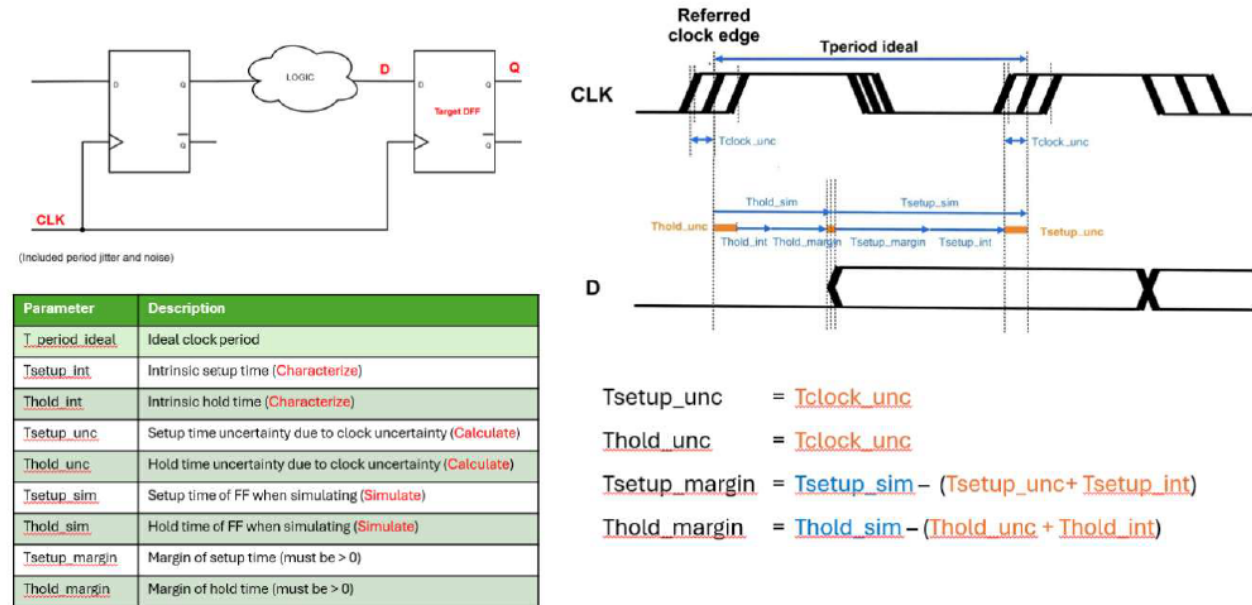
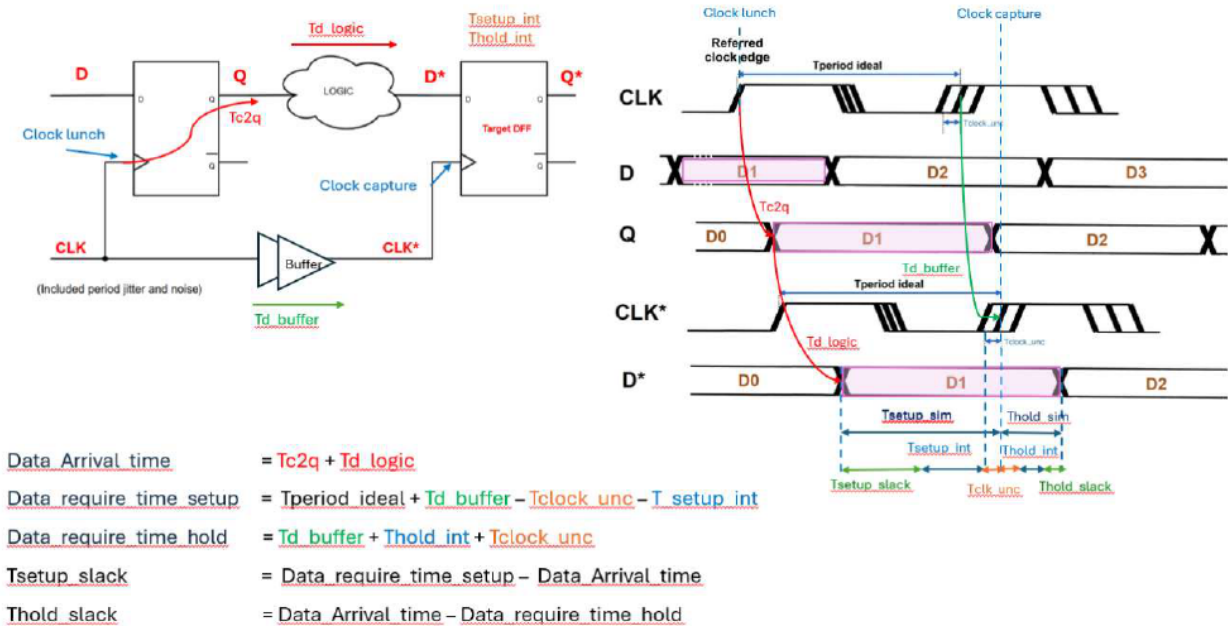

Figure 25. Proposal method to calculate timing margin
Figure 26. Proposal method to calculate timing margin
- **Figure 25** depicts a proposed method for calculating the timing margin.
- Choose one of the two methods shown in **Figures 25** and **26** to measure the timing margin.
- If the method shown in **Figure 25** is selected, complete the timing margin for each PVT corner as presented in the following table.
- Students may refer to the STA flow shown in **Figure 26**, which provides the same timing margin (slack) results.
- If the method shown in **Figure 26** (STA method) is selected, create and complete the corresponding timing margin table, follows to table from **Figure 25** method.